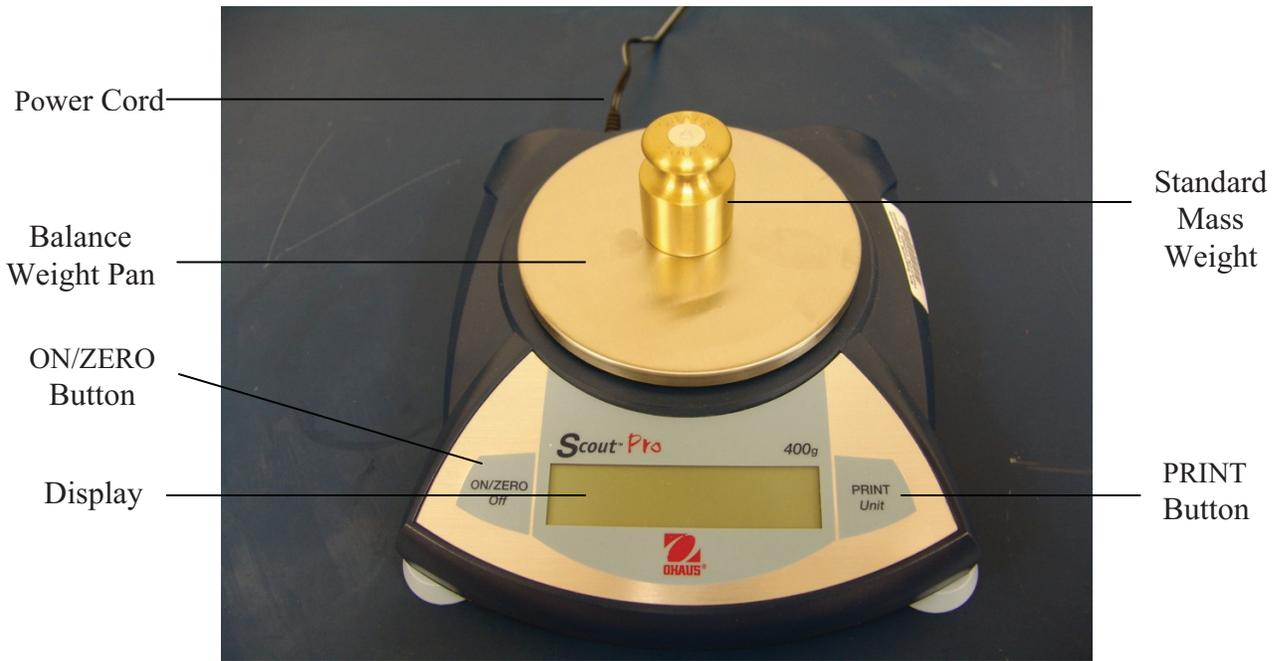

Figure 1: Scout® *Pro* Balance
- 8.1. Turn the scale on using the ON/ZERO button (Figure 1).
- 8.2. Select weight unit by holding down the PRINT button (Figure 1) and scrolling through the options. Release the PRINT button when desired unit is displayed (Figure 1).
- 8.3. Place weighing container on the balance weight pan (Figure 1). Press the ON/ZERO button to tare the scale.
9.1. Figure 1: Scout® *Pro* Balance